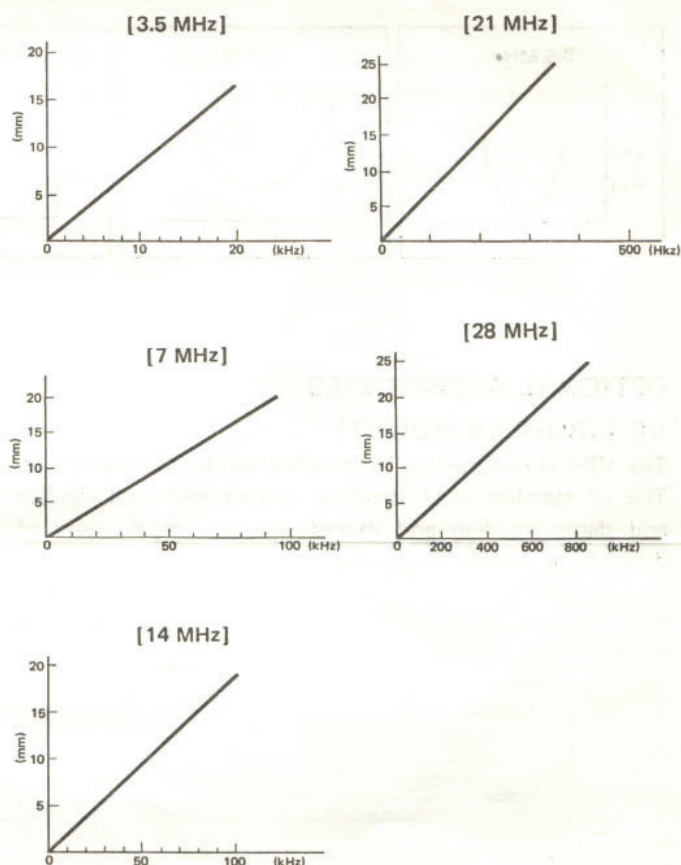

Fig. 7 Relationship between Length of Adjusting Unit and Frequency
- 6) When the " $f_0$ " is higher than the operating frequency, extend the adjusting unit on the tip of the antenna element. When it is lower than the operating frequency, reduce the length of the adjusting unit. Fig. 7 shows the relationship between the length of the adjusting unit and the " $f_0$ ". A slight adjustment provides optimum operation.
When it is lower than the operating frequency, reduce the length of the adjusting unit. The relationship between the length of the adjusting unit and "fo" is shown in Fig. 7. A slight adjustment provides optimum operation.